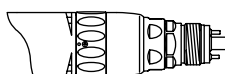

Fig. 5
- (3) When the FWD/REV change ring is positioned at the middle of "F" and "R", the drive air is interrupted and the motor does not rotate. (Fig. 5)